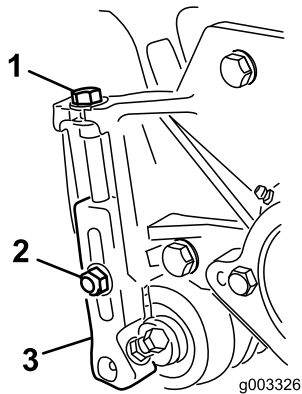

Figure 18
- 1. Loosen the locknuts securing the height-of-cut arms to the cutting unit side plates (Figure 18).